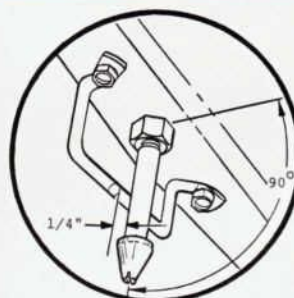

Figure 3
7. Inspect the fore-aft distance between the auxiliary catch striker plate and the dowel shank to assure that the design specified dimensions of $\frac{1}{4}$ " is maintained. This is essential to obtain proper operation of the auxiliary catch. See Figure 3.